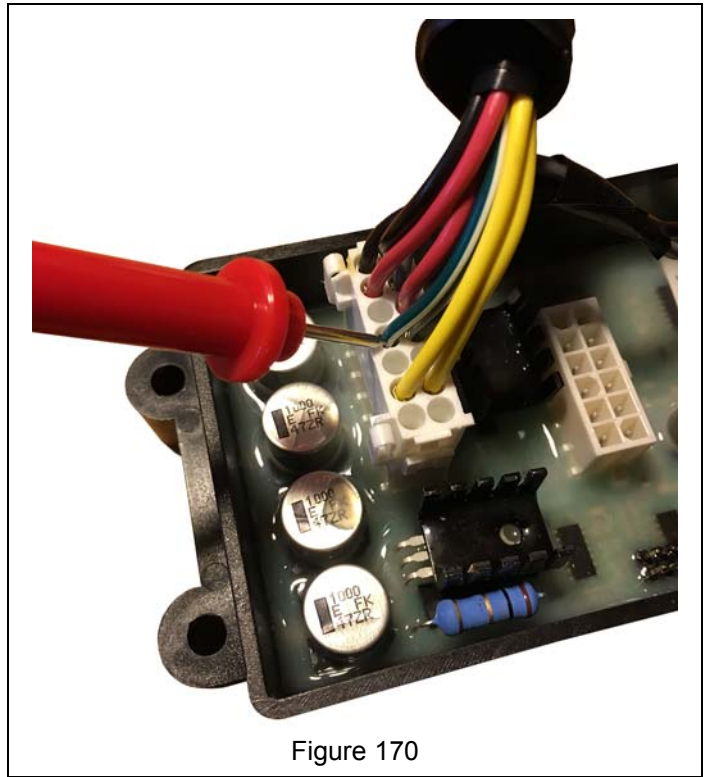

Figure 170
3. With a multi-meter, measure the V DC of the green / white wire. See Figure 170.